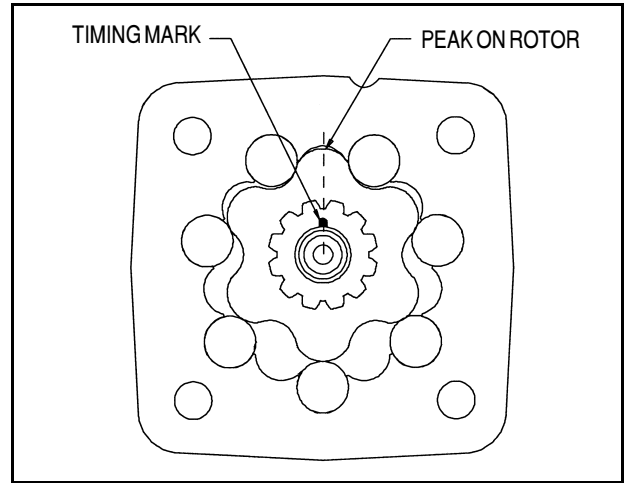

Figure 3-25. Timing Mark
11. Lower the rotor onto the drive link making sure the timing mark on the drive link is aligned with a peak on the rotor as shown in Figure 3-25., Timing Mark.